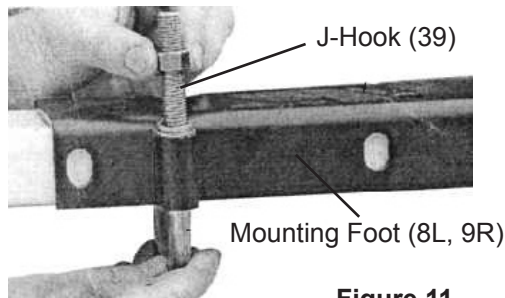

Figure 11
- Insert J-Hook (39) through slots on Mounting Feet to hold Rack against truck bed rails. Fasten in place using Nuts (40), Spring Washer (41) and Flat Washers (42). See Figure 11, below.